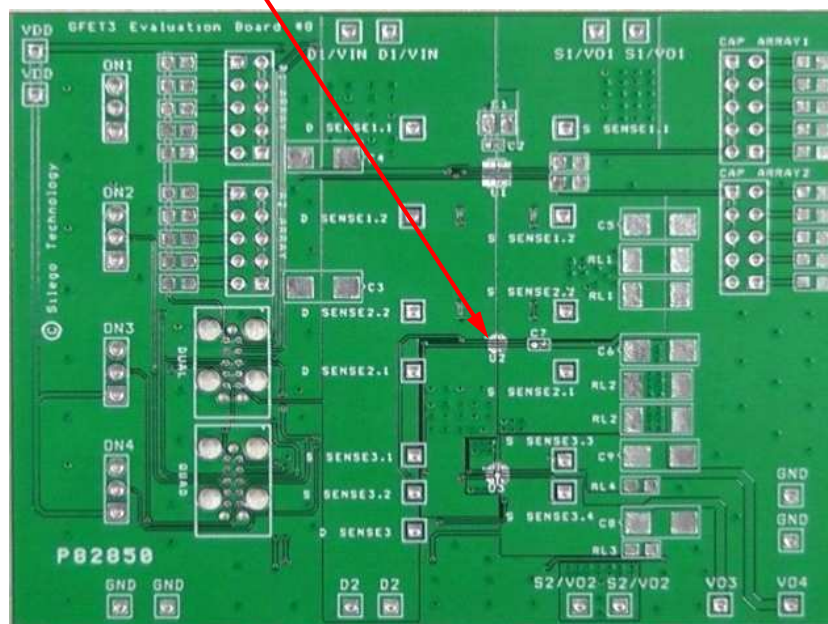

Figure 1. SLG59M1639V Evaluation Board
1. Since the VIN[1,2] and VOUT[1,2] pins dissipate most of the heat generated during high-load current operation, it is highly recommended to make power traces as short, direct, and wide as possible. A good practice is to make power traces with an absolute minimum widths of 15 mils (0.381 mm) per Ampere. A representative layout, shown in Figure 1, illustrates proper techniques for heat to transfer as efficiently as possible out of the device;
A GreenFET Evaluation Board for SLG59M1639V is designed according to the statements above and is illustrated on Figure 1. Please note that evaluation board has D_Sense and S_Sense pads. They cannot carry high currents and dedicated only for RDS_{ON} evaluation.